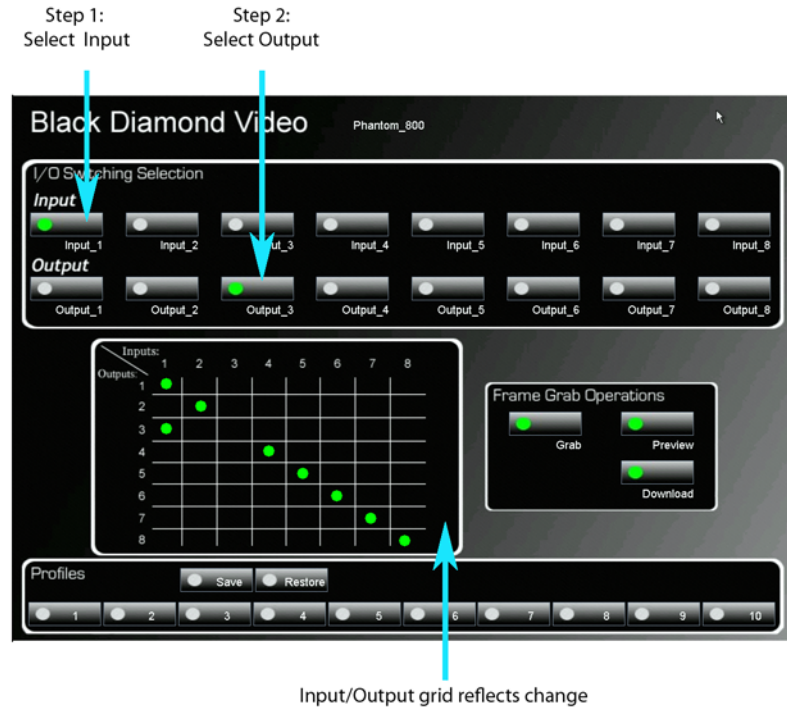

FIGURE 8. Phantom 800 Web-Server GUI
The most common Phantom 800 functions can be handled using the web-server GUI (*Figure 8*). This chapter introduces the GUI appearance and function, and describes how to customize the labelling of the application buttons.
- **Inputs/Outputs**—this section identifies which inputs are going to which displays. In the grid example in *Figure 8*, input 1 is going to outputs 1 and 3. Inputs 2, 4, 5, 6, 7, and 8 are each going to outputs 2, 4, 5, 6, 7, and 8 respectively.